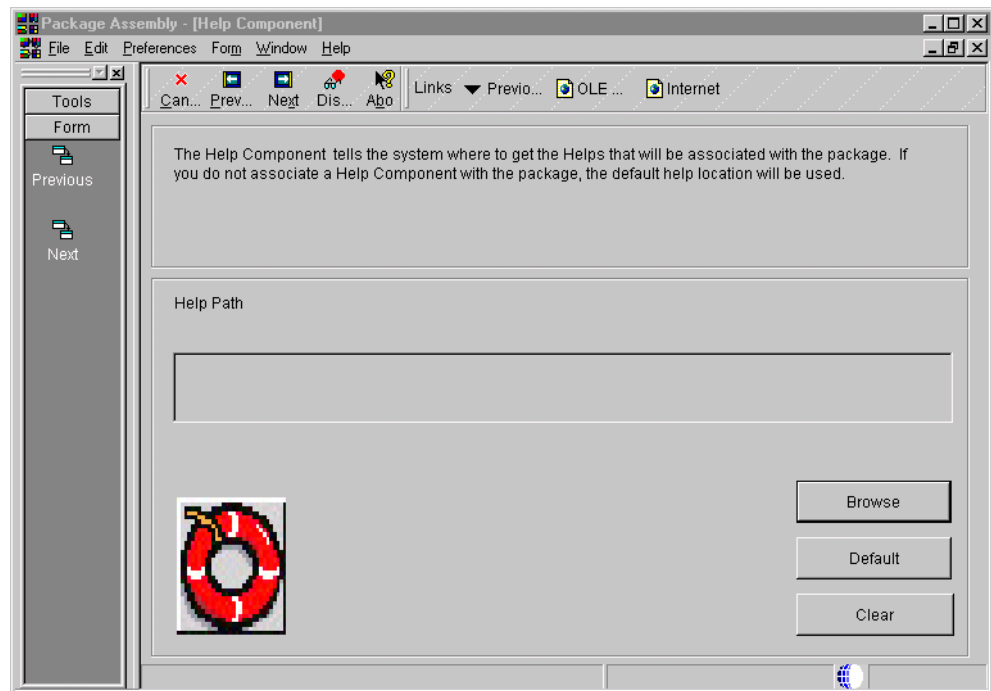

Figure 145. Help Component form
6. Click **Next**. The Help Component form appears (Figure 145).